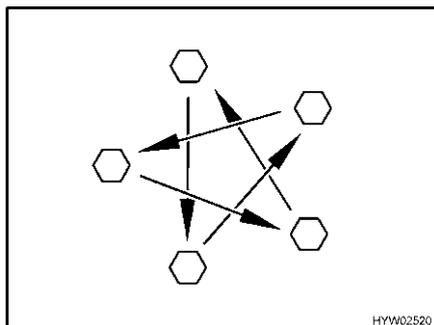

Fig. 304 Tighten the wheel nuts or wheel bolts cross-wise
- Check regularly that the wheel nuts or wheel bolts are firmly seated. Retighten the wheel nuts or wheel bolts of a changed wheel cross-wise (Fig. 304) after 50 km (30 miles). See section 13.5.2 for tightening torque.
- ▷ Tighten the wheel nuts or wheel bolts cross-wise (Fig. 304).